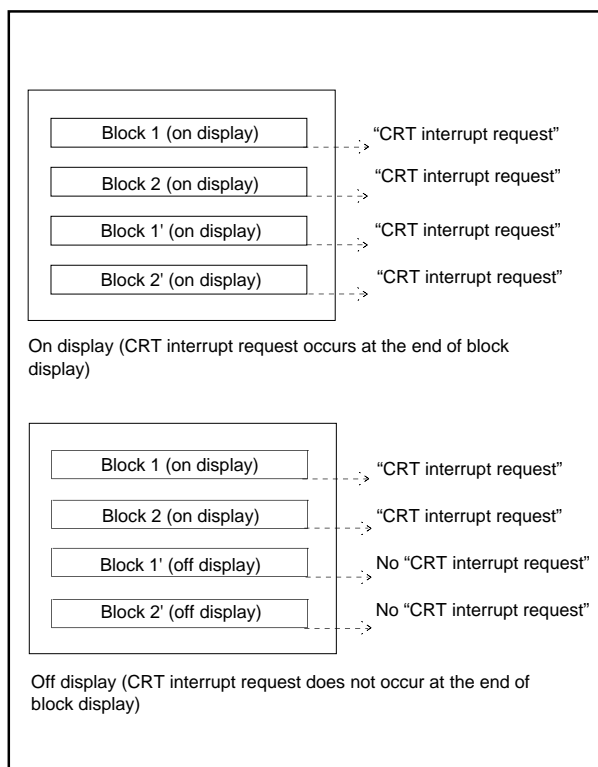

Fig. 49. Timing of CRT interrupt request
**Note:** A CRT interrupt does not occur at the end of display when the block is not displayed. In other words, if a block is set to off display with the display control bit of the CRT control register (address 00EA16), a CRT interrupt request does not occur (refer to Figure 49).